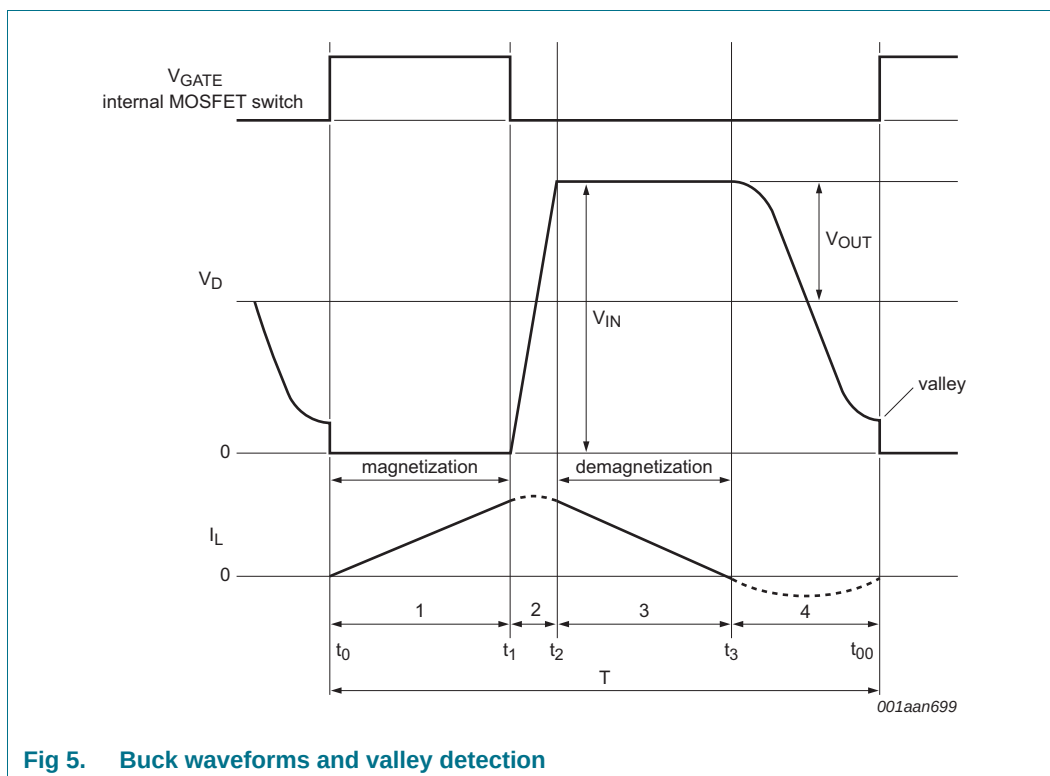

Fig 5. Buck waveforms and valley detection
The converter in the SSL2108 series is a Boundary Conduction Mode (BCM), peak current controlled system. For the basic application diagram see Figure 4, for the waveforms see Figure 5. This converter type operates at the boundary between continuous and discontinuous mode. Energy is stored in inductor L each period that the switch is on. The inductor current I_L is zero when the internal MOSFET switch is switched on. Thereafter, the amplitude of the current build-up in L is proportional to $V_{IN} - V_{OUT}$ and the time that the internal MOSFET switch is on. When the internal MOSFET switch is switched off, the current continues to flow through the freewheel diode and the output capacitor. The current then falls at a rate proportional to the value of V_{OUT} . The LED current I_{LED} is almost equal to half the peak switch current. A new cycle is started, as soon as the inductor current I_L is zero.
A new cycle is started when the primary switch is switched on (see Figure 5). Following time t_1 , when the peak current is detected on the SOURCE pin, the switch is turned off and the secondary stroke starts (3). When the secondary stroke is complete and the coil current at t_3 equals zero, the drain voltage starts to oscillate around the $V_{IN} - V_{OUT}$ level. The amplitude equals V_{OUT} . A special feature, called valley detection is an integrated part of the SSL2108 series circuitry. Dedicated built-in circuitry connected to the DRAIN pin, senses when the voltage on the drain of the switch has reached its lowest value. The next cycle is then started and as a result the capacitive switching losses are reduced.